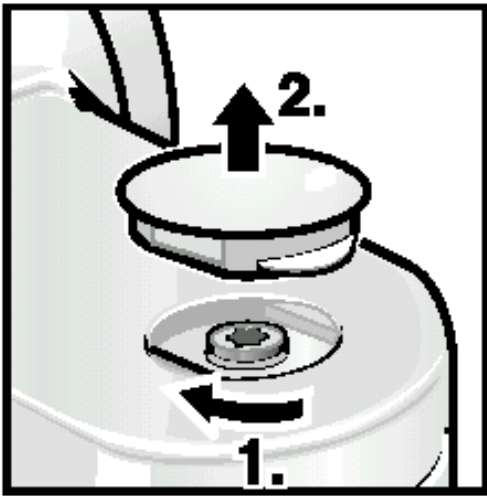

Figure 10.
2. The continuous shredder is used in mode 2, see table 1. To place the continuous shredded on the power unit, the arm must be rotated to the horizontal position. Depress the release button, see 4a, and move the arm as necessary so that the arm is horizontal. If you have not already done so, remove the motor drive cover from the mid-speed drive, as shown in figure 10.